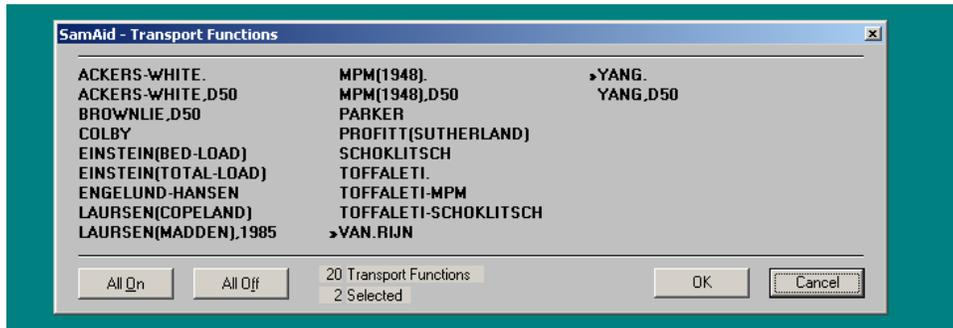
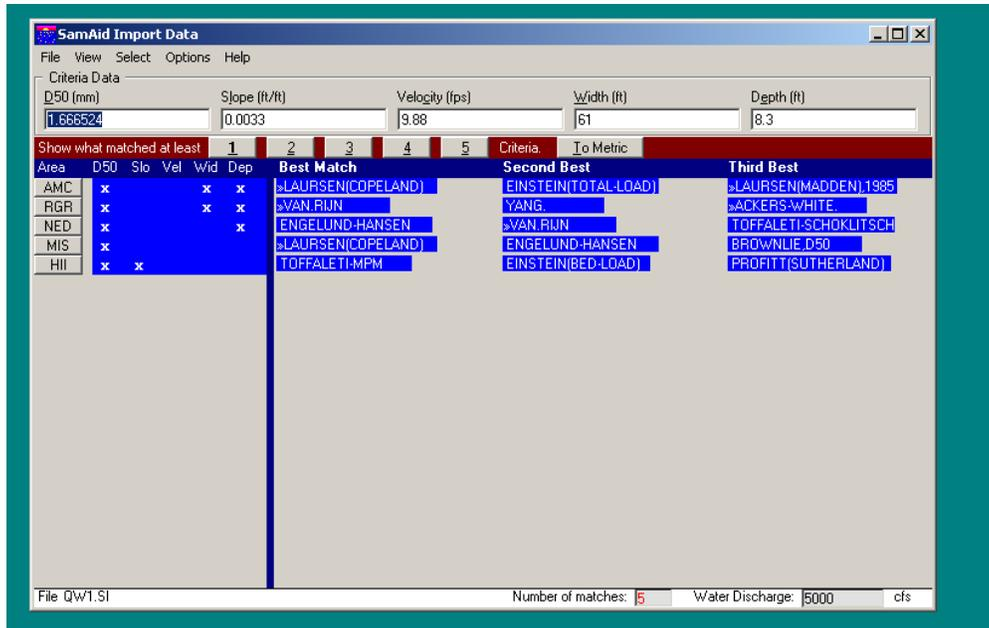

Figure F-4. Transport Functions screen, showing 2 functions selected.
Figure F-5. SAM.aid output screen
4. Turn on the desired functions -- Figure F-4 or Figure F-5.
Choosing “Transport Functions...” brings up the screen in Figure F-4. Any sediment transport function can be turned on or off in the input file by clicking on the function name.
If a “>” appears next to the name, as by "YANG" and “VAN.RIJN” in Figure F-4, then the function will be turned in the input file. Mouse clicks toggle the functions on and off. The selections made on this screen are transferred to the main screen once "OK" is selected. They are transferred to the input file when the user saves the file.
The output screen, shown in Figure F-5, lists the various sediment transport functions that are recommended by SAM.aid. The parameters of the chosen “column” from the input file are echoed in the “Criteria Data” area. The parameters from this data that fell within the data ranges of the listed Brice data sets are checked with an “x”. The transport functions that are turned on in the input file are marked with a small “>>”. A mouse click on a function name on this screen will toggle that function on and off.